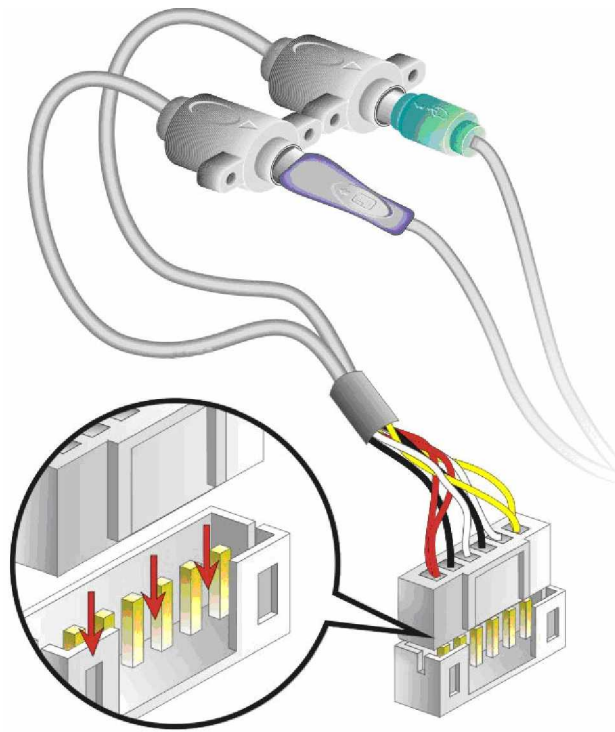

Figure 5-12: Keyboard/mouse Y-cable Connection
- Step 2: Align the connectors.** Correctly align pin 1 on the cable connector with pin 1 on the 3302140 keyboard/mouse connector. See **Figure 5-12**.
- Step 3: Insert the cable connectors** Once the cable connector is properly aligned with the keyboard/mouse connector on the 3302140, connect the cable connector to the onboard connectors. See **Figure 5-12**.
- Step 2: Align the connectors.** Correctly align pin 1 on the cable connector with pin 1 on the 3302140 40-pin serial port connector. See **Figure 5-12**.
- Step 3: Insert the cable connectors** Once the cable connector is properly aligned with the 40-pin serial port connector on the 3302140, connect the cable connector to the onboard connectors. See **Figure 5-12**.